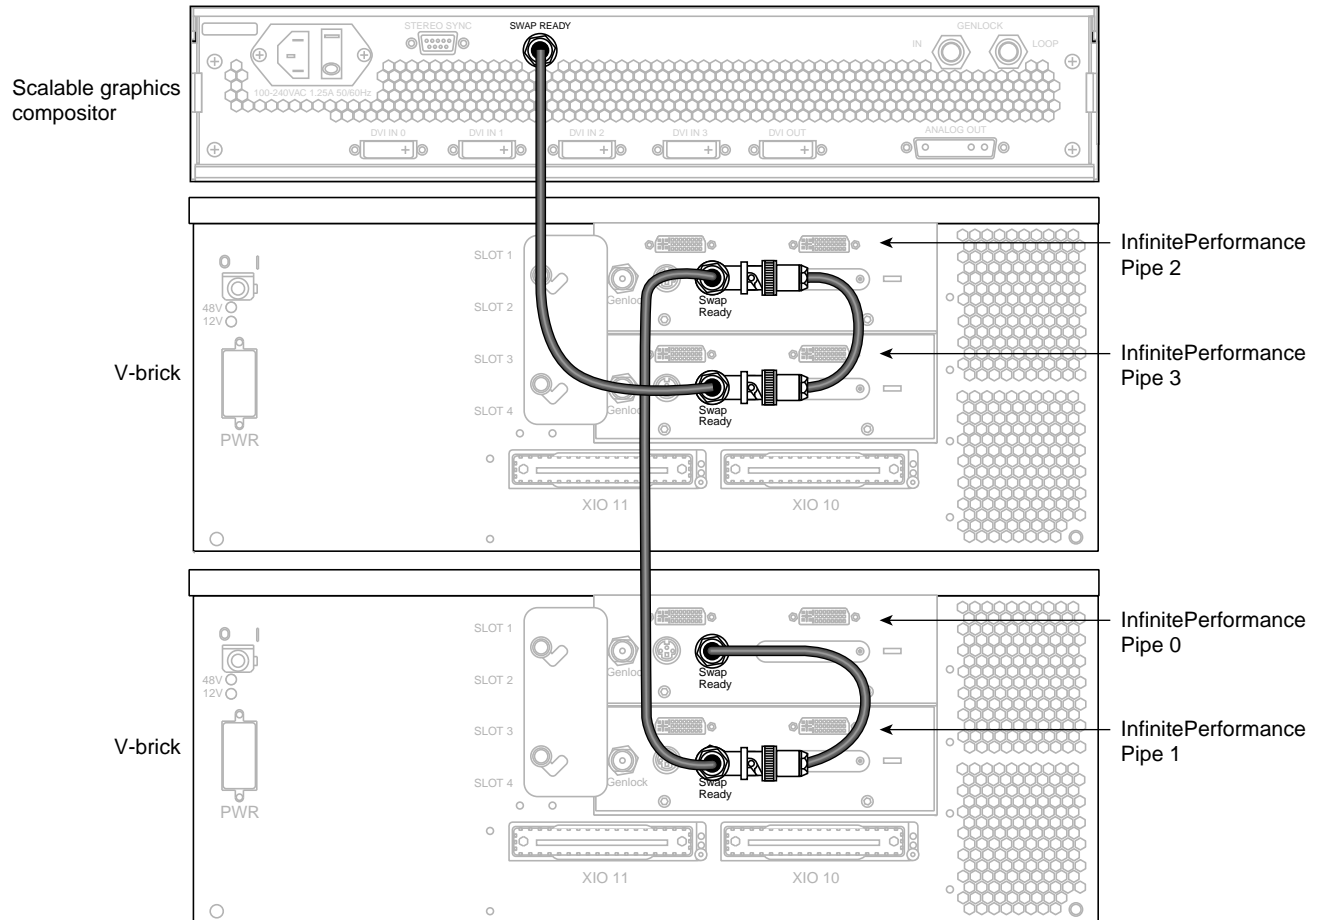

Figure 2-5 Connecting the Swap-Ready Connectors
4. Using the 75-ohm BNC cables and the BNC T connectors, daisy-chain the InfinitePerformance swap-ready connectors to each other, and then connect the last connector to the swap-ready connector on the compositor in the following order (as shown in Figure 2-5): pipe 0 to pipe 1, pipe 1 to pipe 2, pipe 2 to pipe 3, and pipe 3 to the swap-ready connector on the compositor.